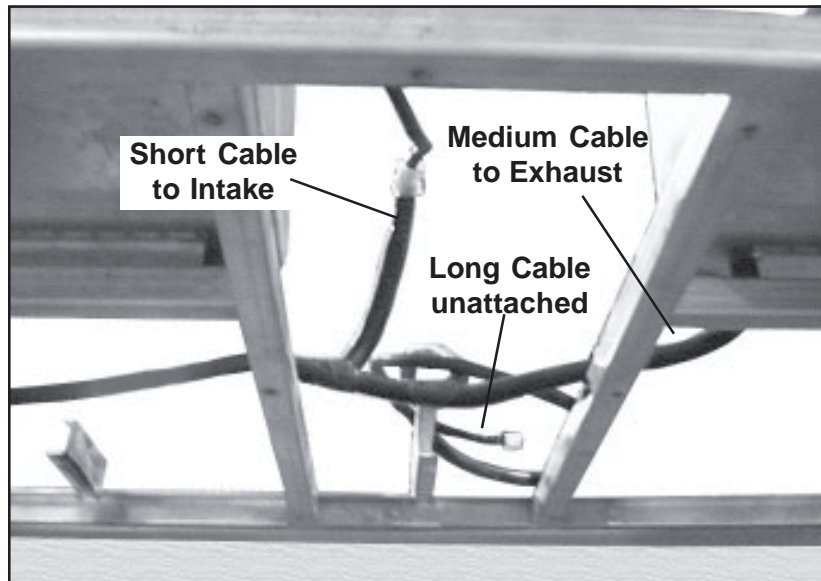

Figure 8. Blower Box Cable Connections
7. Connect two of the three cables from the electrical box to the blower box cables (Figure 8) as follows: